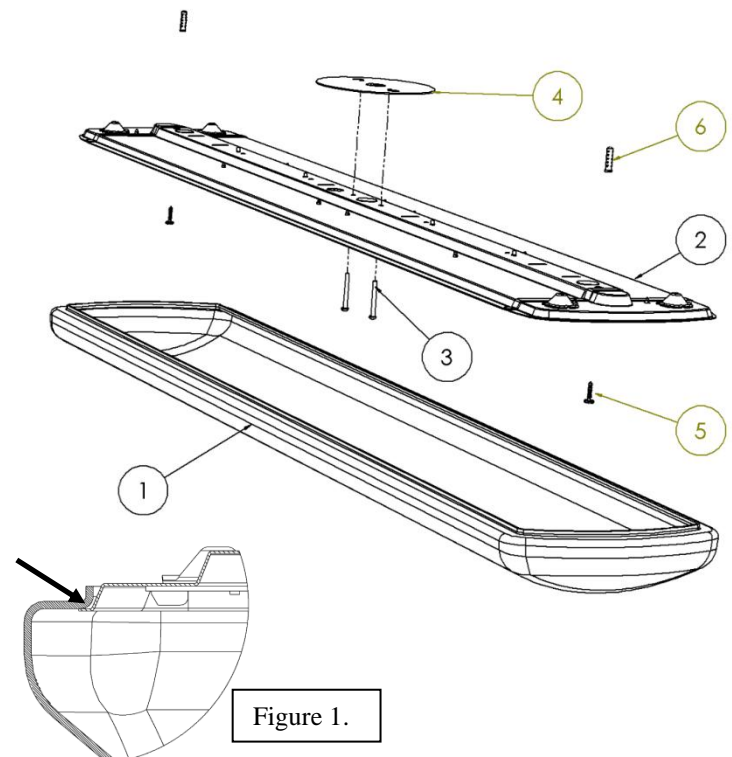

Figure 1.
Align and center diffuser (1) to the back pan (2) then slightly angle it on the side to slip and slide along the edges until the diffuser is completely on the top flange of the back pan. Ensure diffuser is resting evenly along the perimeter of the back pan. See figure 1. Note: diffuser does not use any additional hardware to captivate to the back pan.